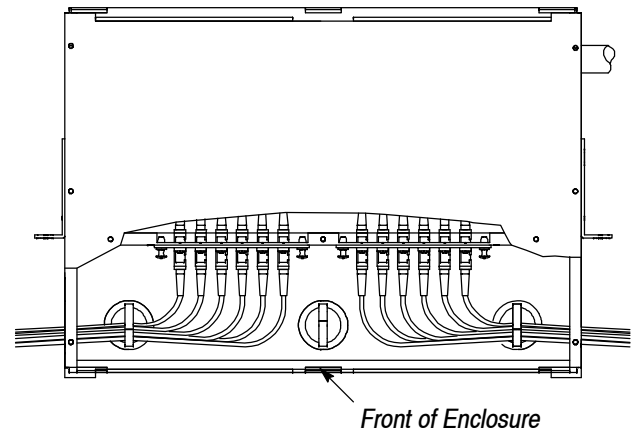

Figure 8
2. Dress the cable through the split fiber saddle rings, and join the connectors to the coupling bushings at the front of the adapter plate. See Figure 8.